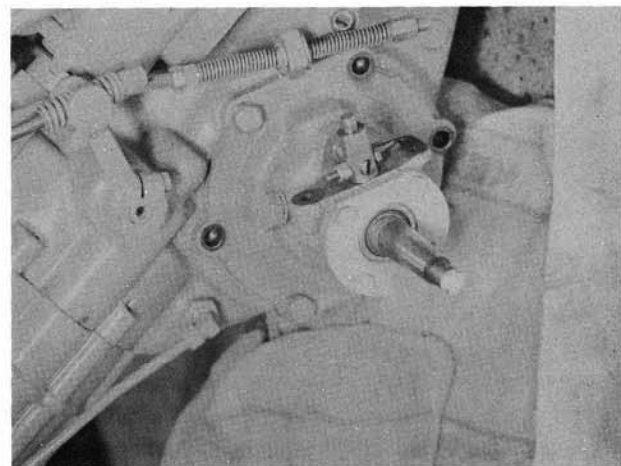

Figure 42
20. Bolt both Axle Housings to the chassis with three bolts (three bolts for each axle housing). Refer to Figure 42. Then check for bearing adjustment by shimming between Axle Housing (L-203-E) and the chassis, and Axle Housing (6728) and chassis.